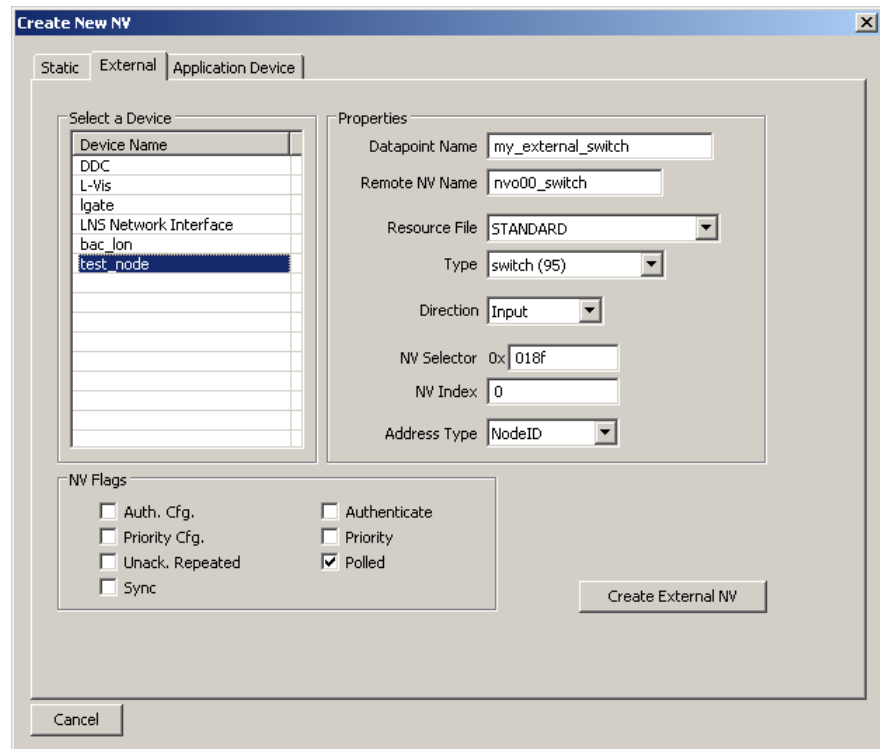

Figure 94: Create a new external NV.
3. Click on the tab **External** as shown in Figure 94.